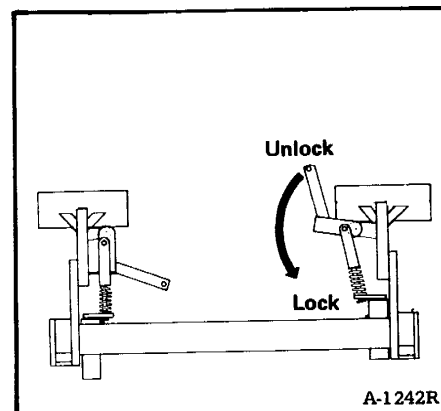

Fig. 12 Bob-Tach System
BOB-TACH SYSTEM (Figure 12)
5. Engage locking mechanism by rotating levers downward into locked position (Figure 12).